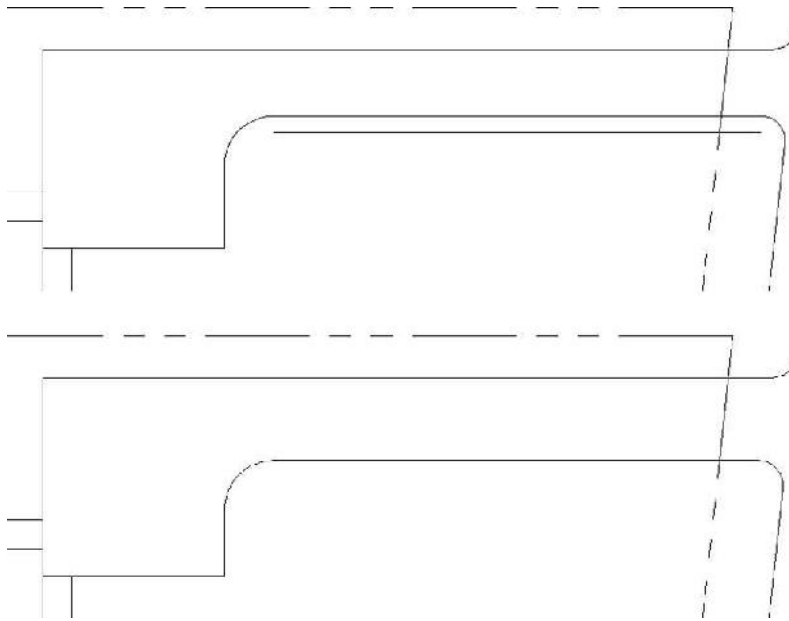

FIGURE 13.19: Offset the lower driveway line (top), fillet the new lines, and delete the existing radii (bottom).
2. Offset the lower road line 2' (0.6 m) downward, as shown in the top of Figure 13.19.
Your driveway is now 10' (3.1 m) wide, as shown at the bottom of Figure 13.19.